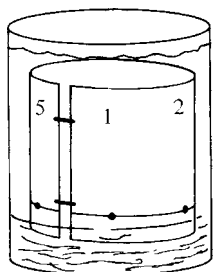

Figure 23.7
10. Place the stapled chromatogram into the 600-mL beaker, the spots being at the bottom near the solvent surface but **not covered by it**. Cover the beaker with aluminum foil (Figure 23.7). Allow the solvent front to migrate up to 0.5–1 cm below the edge of the paper. This may take from 15 min. to 1 hr. Make certain by frequent inspection that the **solvent front does not run over the edge of the paper**.